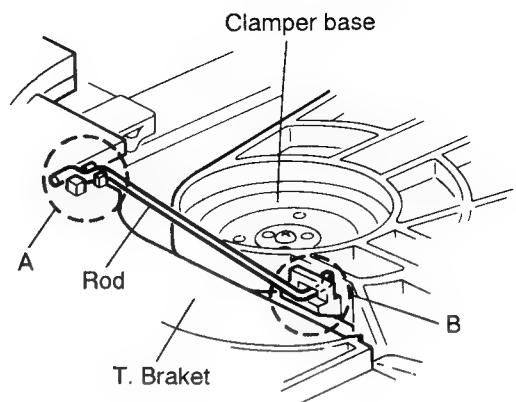
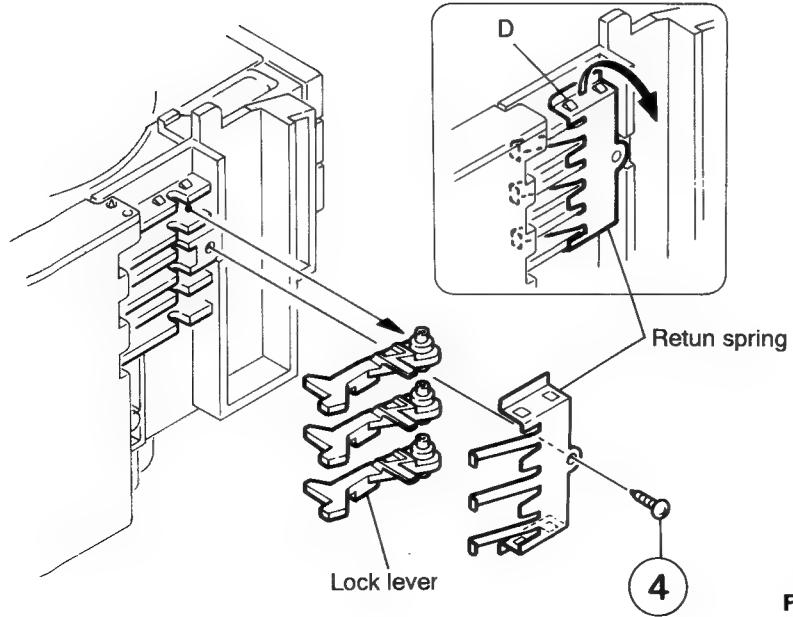

Fig. 5-17
Fig. 5-19
(See Figs. 5-17~5-23)
4. From the T. bracket section (A) and clamper base section (B), remove both of the edges fixing the rod (See Figs. 5-17 and 5-18).
5. Remove the three screws (1) retaining the T. bracket (See Fig. 5-17).
6. From the left side face of the chassis assembly, remove the one screw (4) retaining both of the return spring and lock lever.
7. By removing the pawl at the section (D) fixing the return spring, dismount the return spring (See Fig. 5-19).
8. Remove the three lock levers (See Fig. 5-19).